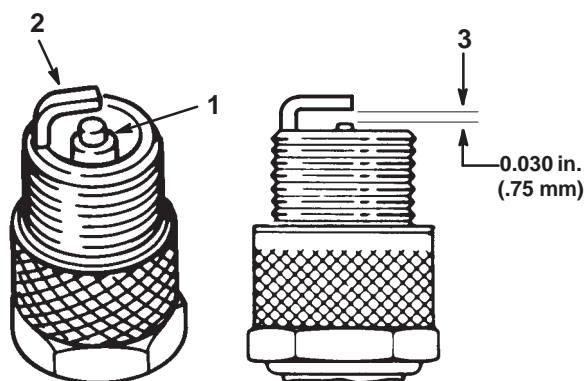

Figure 25
2. Look at the center of the spark plug(s) (Fig. 25). If you see light brown or gray on the insulator, the engine is operating properly. A black coating on the insulator usually means the air cleaner is dirty.
3. Check the gap between the center and side electrodes (Fig. 25). Bend the side electrode if the gap is not correct.